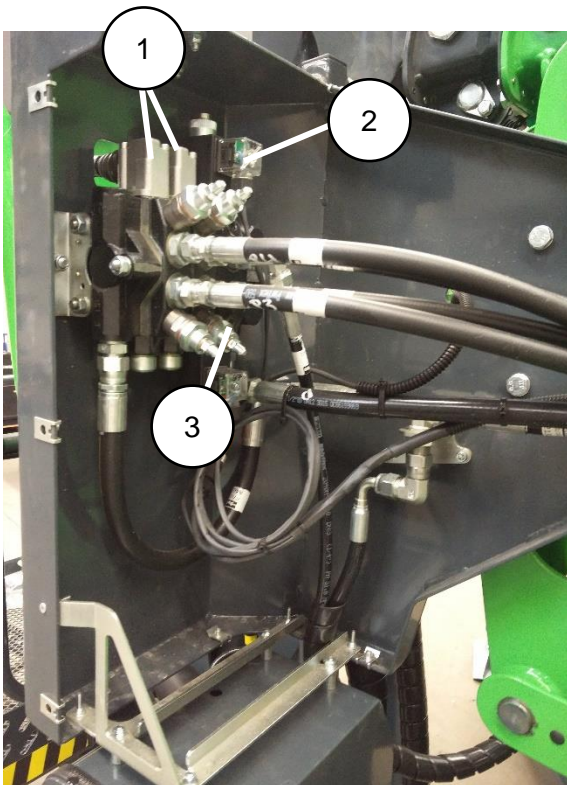

Figure 27: Pedestal valve housing
Overload control mechanism is located between the working platform and the platform support (Figure 27). Basket load is measured with a load sensor (1) which follows EN 280 -standard.